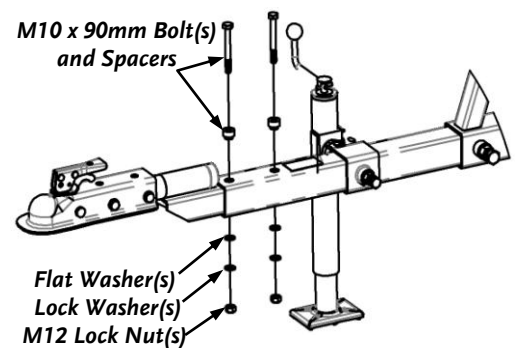

Figure 20
2. Install two M10 x 90mm Bolts and Spacers, with the smaller diameter Shoulder(s) down, (**Figure 20**) through the Tow Bar and Pivoting Tow Hitch. Install a Flat Washer, Lock Washer, and M10 Lock Nut on each Bolt and tighten with a 16mm Socket while holding the Nut with a 17mm Wrench.